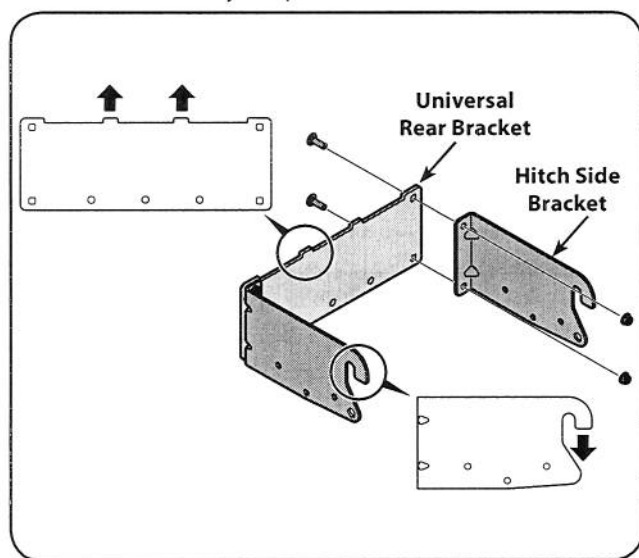

Figure 4-3
1. Attach the right-hand and left hand rider hitch bracket to the universal rear attachment bracket using the four carriage bolts (710-0276) and flange lock nuts (712-04063) packed with the mounting brackets. Position the brackets with the hooks on the right-hand and left hand rider hitch bracket pointing downward, and the tabs on the universal rear attachment bracket pointing upwards. See Fig. 4-3.